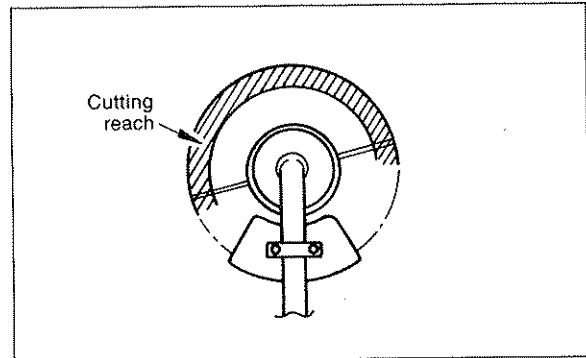

Fig. 28
2. The shaded portion (Fig. 28) of the cutting area indicates the effective cutting reach for mowing.